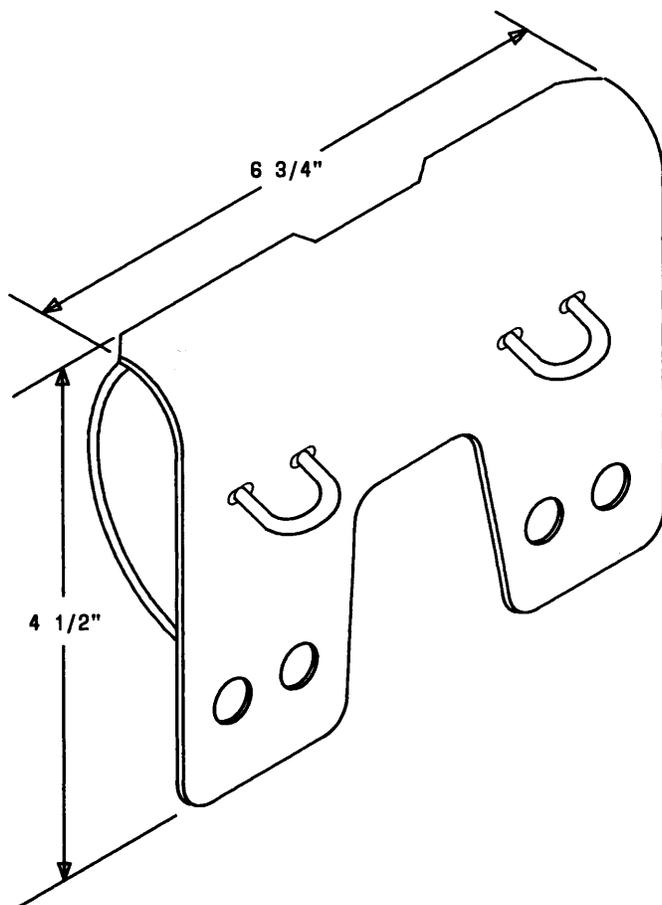

Fig. 14—AT-8923 B Test Set Holder Tool
2.11 AT-8923: The B test set holder tool (Fig. 14) fits on the B pouch belt and is for holding a telephone handset and the 188A test set voltage probe.